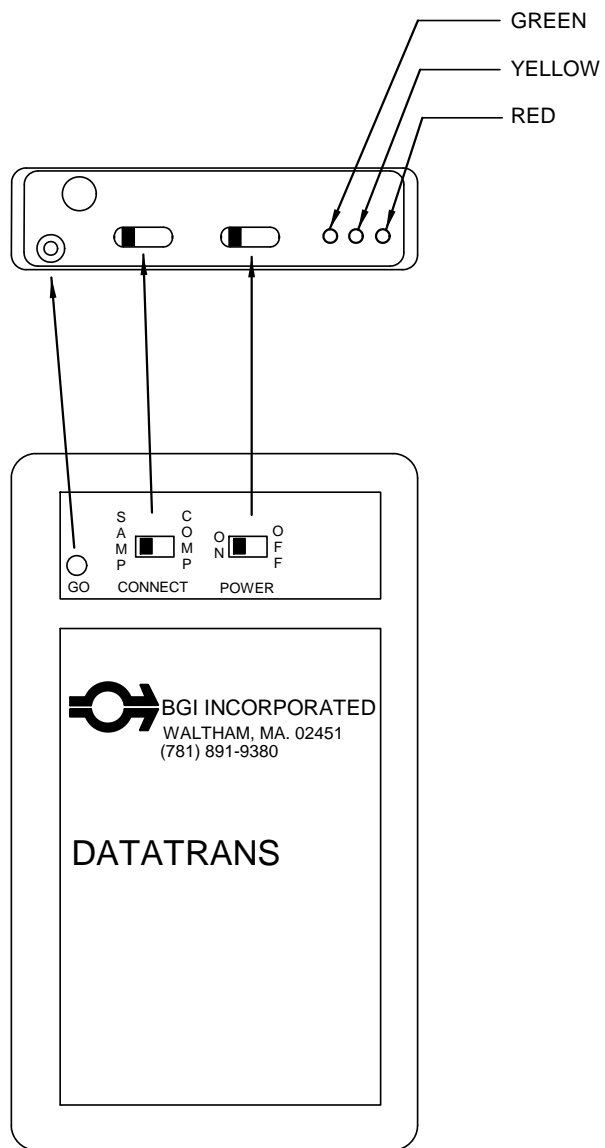

Figure M1. Schematic Diagram of Datatrans
1. Turn the unit on with the power switch on the front panel (See Figure M1).